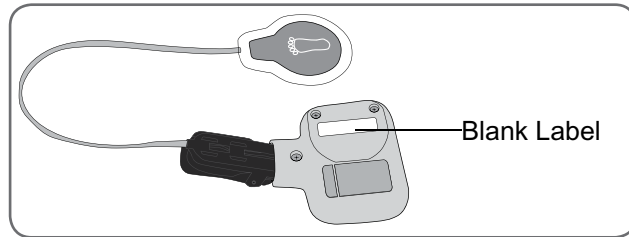

Figure 9-6: Label on the Intelli-Sense Gait Sensor for the System ID Number.
7. Locate the System ID Number on the NESS L300 carrying case (for example, A334). Write the number on the small label on the back of the new Intelli-Sense Gait Sensor. See Figure 9-6. This number identifies which system the sensor is registered to.